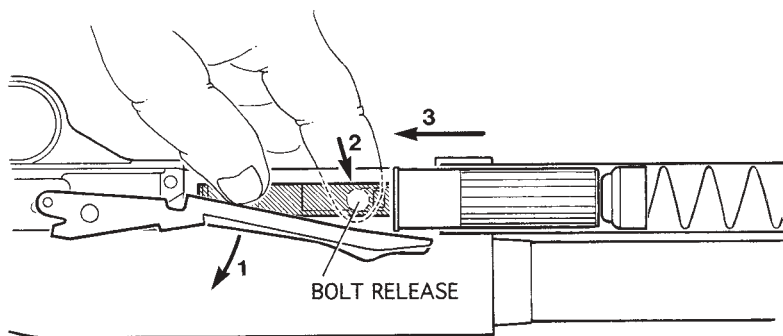

Figure 8
1. First, remove the shells from the magazine tube. With the safety button fully rearward in the “ON” (SAFE) position, turn the shotgun so that the trigger guard is facing upward (Figure 8).